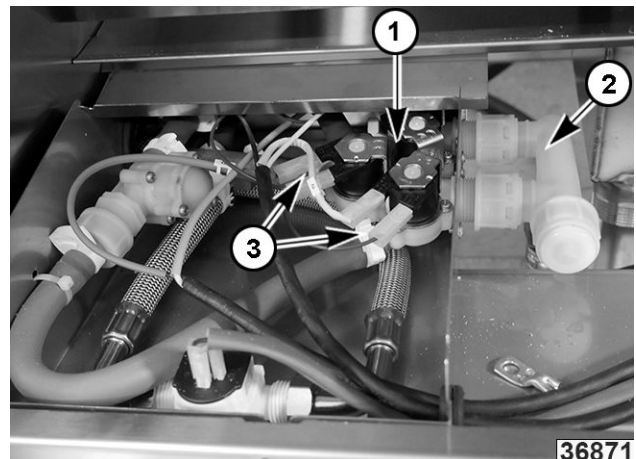

Fig. 23
4. Remove WATER SUPPLY MANIFOLD (COLD WATER SUPPLY) (2, Fig. 23).
5. Document hose and wire locations attached to solenoid (1, Fig. 23).
6. Loosen front and rear hose clamps to remove hoses (3, Fig. 23).
9. Remove solenoid (2, Fig. 23).